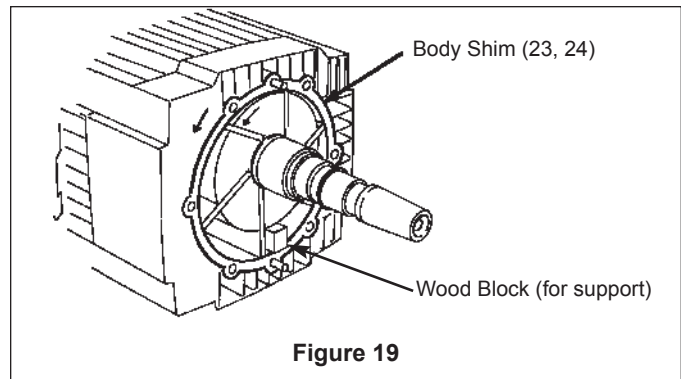

Figure 19
- Once the sideplate is removed, fully support the rotor and shaft with the use of a wood block to keep it from dropping and damaging the bearings. Note and mark which sideplate is removed from clockwise or counterclockwise ends of the blower. (Hint: mark both sideplate and rotor.) See Figure 19.
- The shaft shims (21, 22), roller bearing (11) inner race and distance sleeve (7) may remain on the shaft. These MUST be removed and replaced with the same sideplate assembly. Check that the bearing grease is not contaminated with dirt. Replace grease as necessary. If equipped with a body shim (23, 24), use care when removing. Note and mark shim position. If shim becomes damaged it must be replaced with an identical size. (The total shim size may be stamped on both ends of the body.) Install this size shim to one end only. See Figure 19.